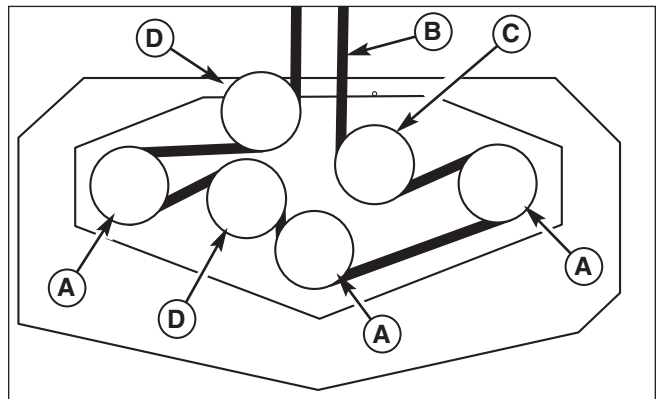

Figure 44. Mower PTO Belt Routing
4. Slide the drive belt over the edge of the stationary idler pulley (B). Carefully release the tension on the breaker bar.
5. Remove the old belt and replace with a new one. Make sure the V-side of the belt runs in the pulley grooves (Figure 44).